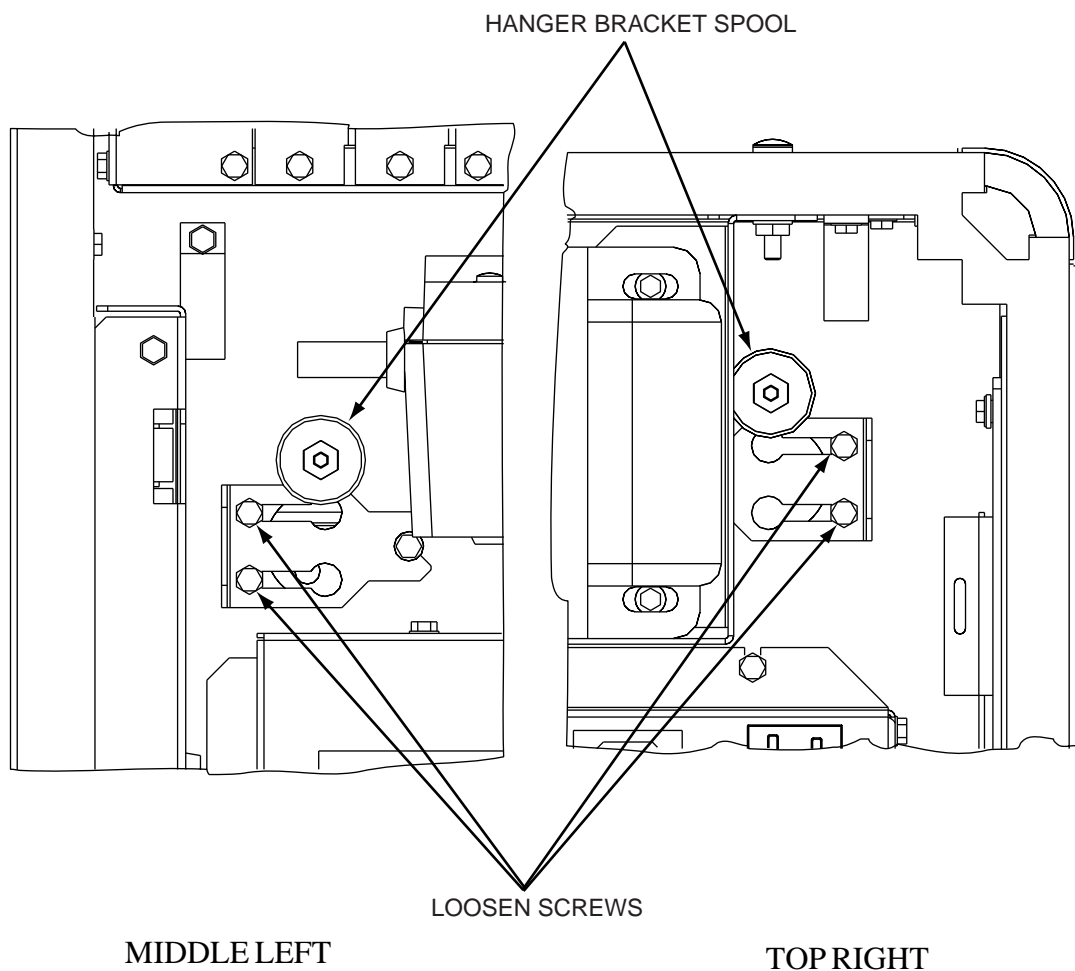

FIGURE 1-2
1. Loosen 2 screws in slots for both Retainer Brackets that hold the Hanger Bracket in place on back of cabinet (See Figure 1-2). Slide Retainer Bracket to side and remove. Then lower and remove Hanger Bracket.
(See Figure 1-2)